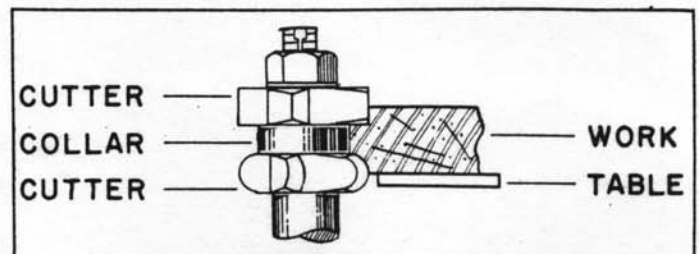

Fig. 18
4. The collar between cutters method, as shown in Fig. 18, has both the advantages and disadvantages of the first two methods and is frequently used where both edges of the work are to be moulded.